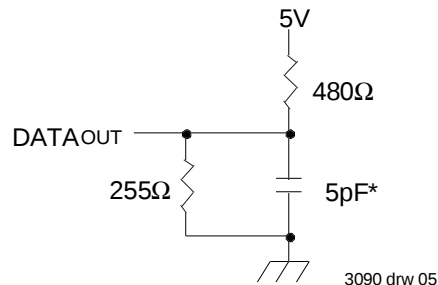

Figure 2. AC Test Load
- This parameter is guaranteed with AC Test load (Figure 2) by device characterization, but is not production tested.
- This parameter is guaranteed with the AC Load (Figure 2) by device characterization, but is not production tested.